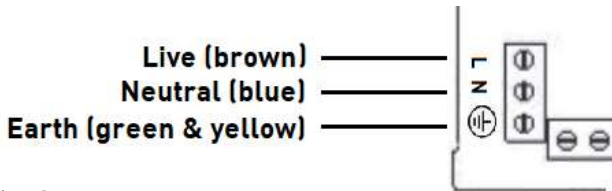

Fig. 3
- Connect the incoming power ensuring the correct polarity is observed (see Fig. 3)